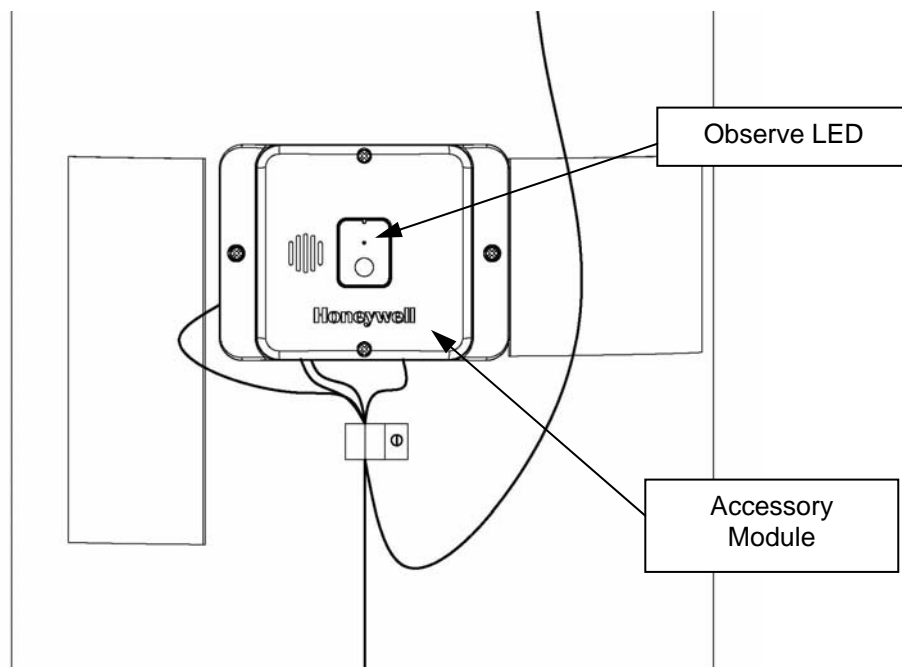

Figure 109
Step 8: Watch the LED on the Accessory Module, and observe as it progresses through the Start-up Sequence. This is shown in Figure 109. If the LED on the Accessory Module goes green at the end of the Start-up Sequence, proceed to Step 11 on page 72.